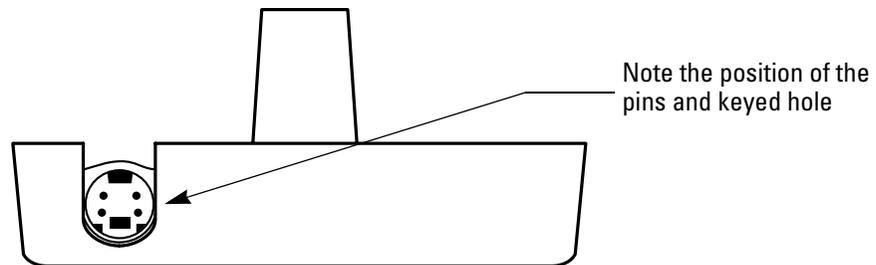

Figure 2.19 Orienting the communication port
10. Position the communication port, as shown in Figure 2.19. Secure the port with the retainer clip.